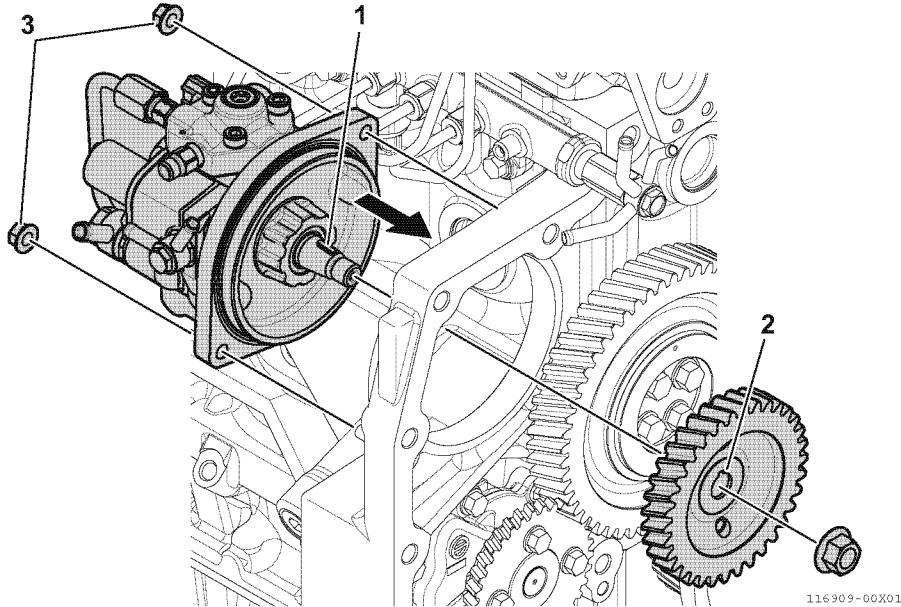

Fig.50-19
Align the position of the supply pump drive shaft key (1, Fig.50-19) with the drive gear key groove (2, Fig.50-19), and install the supply pump body to the cylinder block. Then tighten the nuts (3, Fig.50-19).